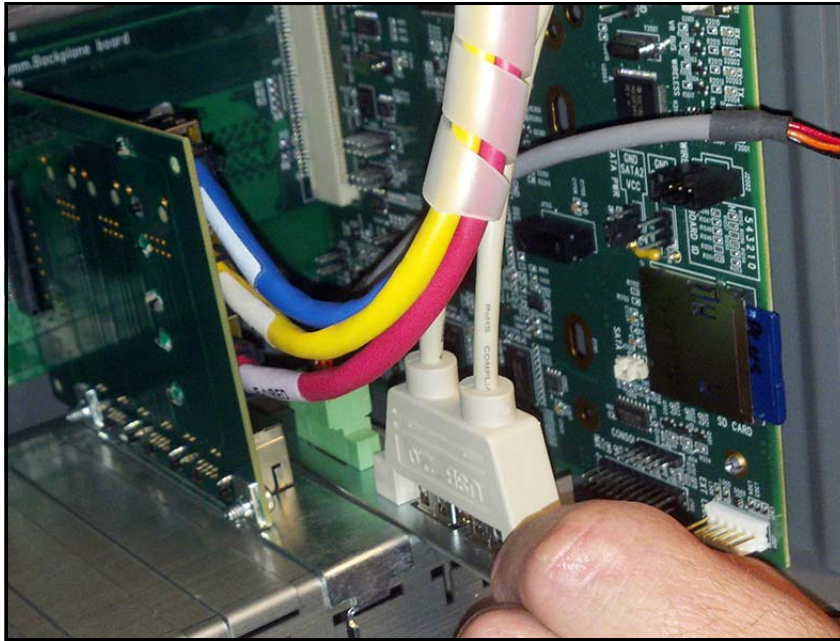

Figure 12. Install USB/Wireless Module In Slot 5
4. Install the TLS-450PLUS USB Module in slot 5 (see Figure 12).